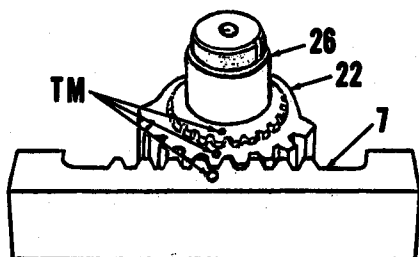

Fig. 35—When reassembling steering motor, be sure that timing marks (TM) on rack (7), pinion (22) and shaft (26) are aligned as shown.
If they have been removed, install snap ring (6), then drive upper bearing cup (5) into housing tightly against snap ring. If removed, install new bearing cup (21) and oil seal (25) in bottom of housing. Use a suitable step plate on bearing cup and make sure it bottoms in bore. Install bearing cone (24), spacer (23) and pinion (22) on shaft, making sure that pinion to shaft timing marks are aligned as shown in Fig. 35. Place housing over spindle, then install rack so that timing marks on rack and pinion are aligned as in Fig. 35, then install guide (11—Fig. 34) with shims as removed; tighten guide retaining cap screws finger tight only. Install upper bearing cone (4) and retaining nut (3). Tighten a 3/4-inch cap screw in center hole of shaft flange so that torque wrenches may be used to check effort to turn shaft. Tighten nut (3) so that a torque of 52-62 in.-lbs. is required to turn shaft with guide retaining cap screws loose, then stake nut to shaft and install cap (1) with new gasket. Install rack pistons and cylinders as previously outlined, then tighten rack guide retaining cap screws to a torque of 20-26 ft.-lbs. With rack centered, breakaway torque required to turn shaft with torque wrench should be 20-25 ft.-lbs. If breakaway torque is not within this range, decrease shim pack (10) thickness to increase guide pressure or add thickness to decrease pressure. Shims are available in thicknesses of 0.007, 0.009, 0.010, 0.012, 0.015 and 0.020 inch.